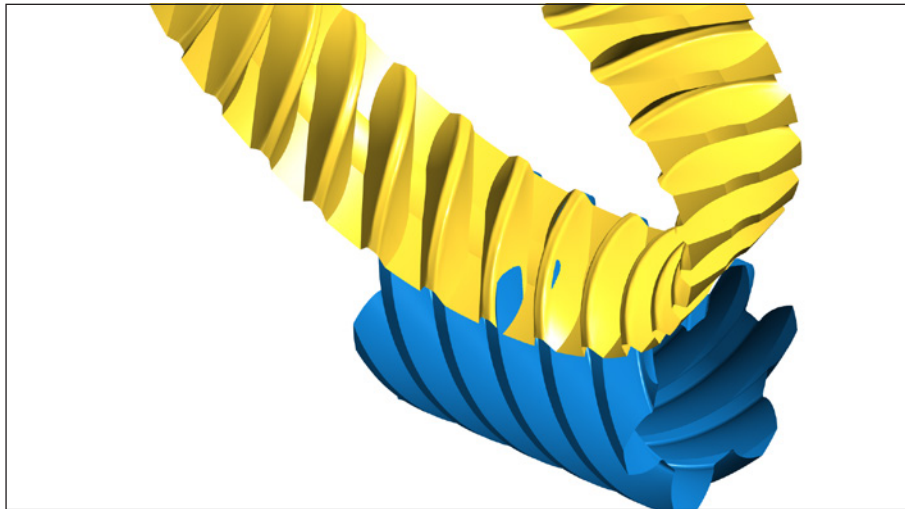

Figure 16—Check of the contact pattern on the design software (Ref. 11).
- numerical and graphical check of contact pattern (Figure 16);